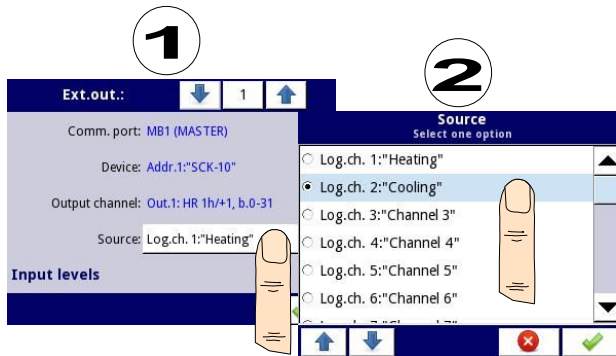

Fig. 7.101. Sample selection of **Source** for External output
- **Source** – this parameter allows to choose a source for an external output from the logical channel list (see **Fig. 7.101**),